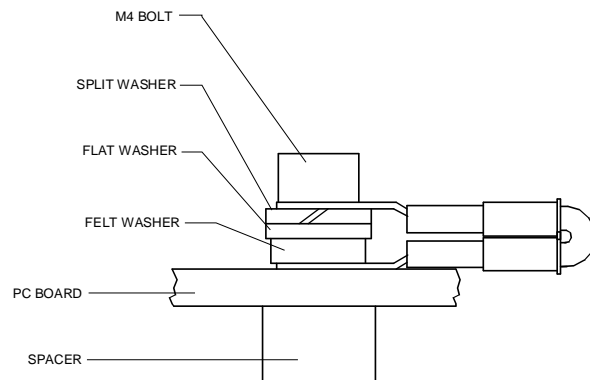

Figure 22. Ground Jumper
- b. Using a 3 mm Allen wrench and a 7 mm wrench remove the nuts from the bolts that secure the Spare Boards together. You will be using these bolts to secure the spare set in your system. DO NOT change the position of any of the bolts. The bolt containing the felt washers and ground jumper must remain in the same position (see Figure 22).